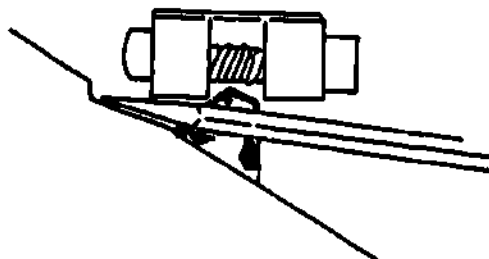

Fig 1-67. Improper removal of battery clamp.
- Never try to pry the clamp off in the manner shown in figure 1-67.